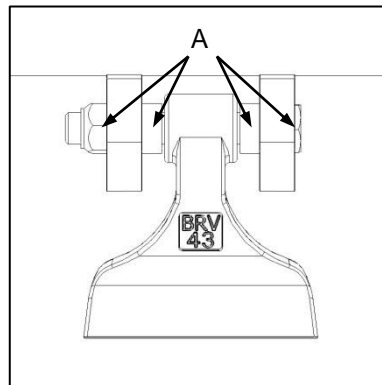
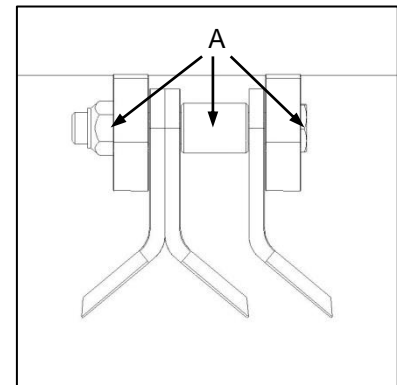

Fig. 8
Fig. 9
- ✔ Replace all associated mounting hardware when fitting new hammers or blades. This should include blade bolts, bushes and nuts (Fig. 8-A / Fig. 9-A).
- ✔ Vervang al die betrokke monteringsonderdele wanneer nuwe hamers of lemme aangebring word. Dit moet lemboute, -busse en -moere insluit (Fig. 8-A / Fig. 9-A).